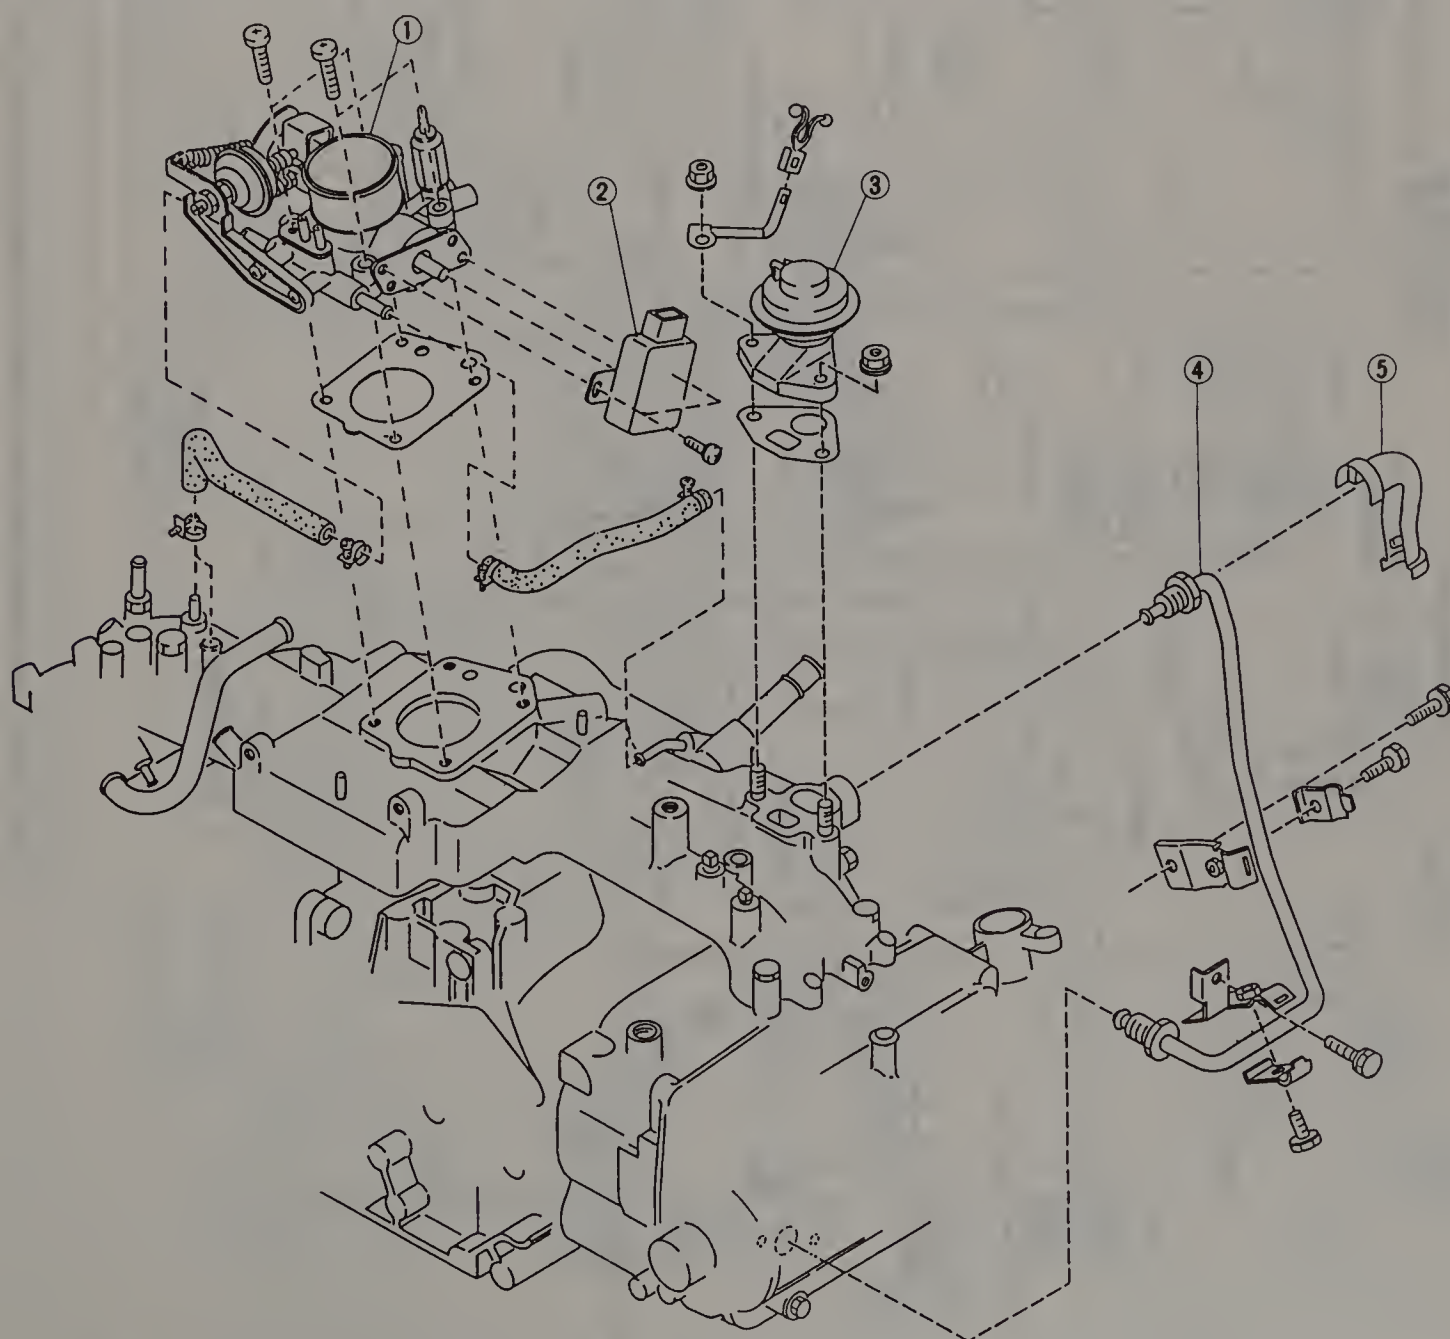

Fig. 13.51 MPFI system throttle body and related components — exploded view (Sec 9)
- 32 Loosen and remove the bolts and detach the throttle body assembly from the intake manifold (Fig. 13.51).